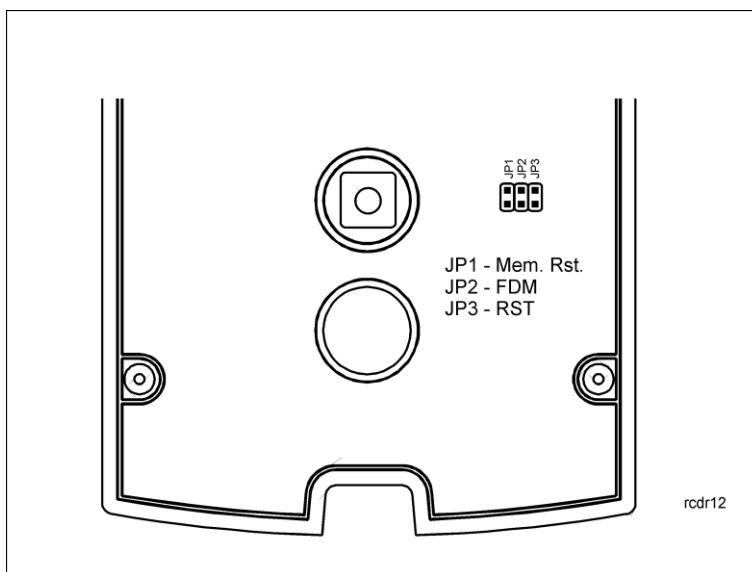

Fig. 7 Location of FDM and RST pins inside controller enclosure
- Install devices in such way as to ensure easy access to screw terminals and jumpers (RST, FDM) located inside the controller – see fig. 7.
- Place jumper on Mem. Rst. pins inside controller enclosure (see fig. 7) – continuous acoustic signal shall be generated
- Place jumper on Mem. Rst. Pins inside controller enclosure (see fig. 7) - continuous acoustic signal shall be generated
- Place jumper on FDM pins (see fig. 7)